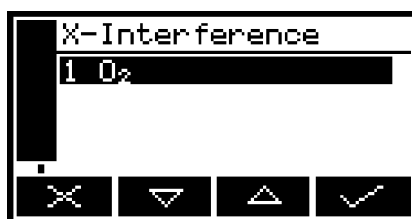

Figure 22 - The X-Interference select screen
- If your Multi Purpose is configured for 2 sample measurements, the X-Interference select screen will then be displayed, as shown in Figure 22. Continue at Step 3 below.